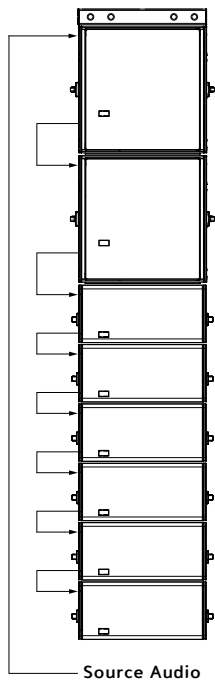

Figure 4: Flown Mixed Array (ratio 3:1)
- Flown mixed arrays of LINAs and 750-LFCs (Figure 4)